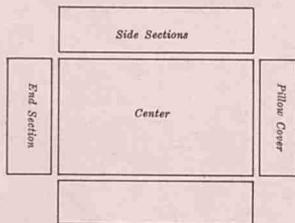

Figure 2
All custom-tailored spreads will wear longer, will wrinkle less, and look better if they are lined. It is almost essential to line light-weight fabrics. Quilting will also add to the wearing quality of many fabrics. Use a firmly woven pre-shrunk muslin or other fabrics especially designed for lining. When a lining is used, be sure that it has been pre-shrunk. The two fabrics may be cut and handled as one. (Figures 2 and 3)
8. Fold and pin the corner so the curves match. (Fig. 2) Bind the curve with bias binding. Repeat these steps for all corners.